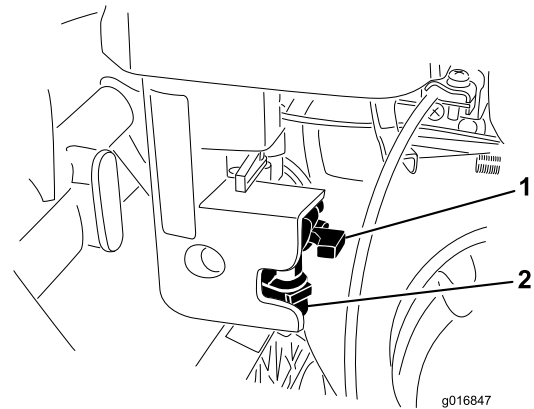

Figure 36
1. Close the fuel shut off valve and unscrew the fuel cup from the filter body (Figure 36).